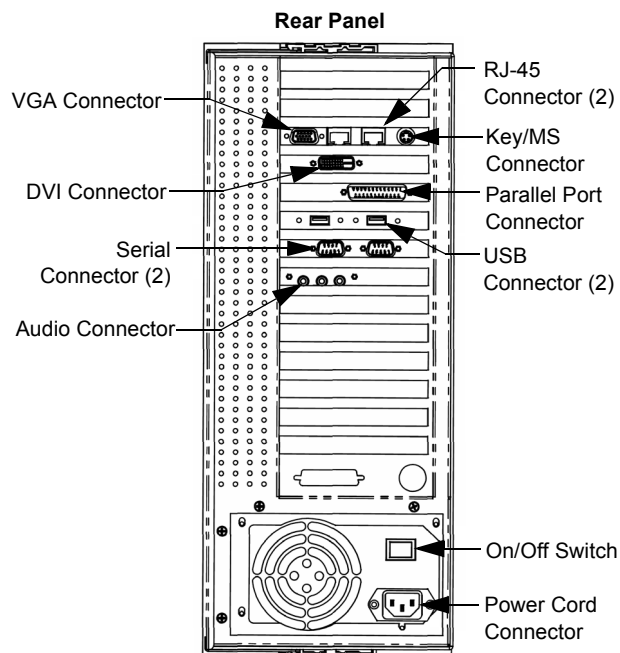

Figure 2: Server Rear Panel Components
3. Connect the server to the LCD monitor using the VGA or DVI cable provided. See Figure 2 for component connections on the server.
5. Connect the mouse to an available USB port. See Figure 2.
6. Connect the keyboard to the Key/MS connector. See Figure 2.
7. Connect the server to the local network using one of the RJ-45 connectors on the back of the server. See Figure 2. See also Networking and Network Cabling Requirements on page 3.
9. Connect the server's power cable. See Figure 2. See also Line Power Requirements on page 2.
10. Turn on the main power switch on the back of the server. See Figure 2.